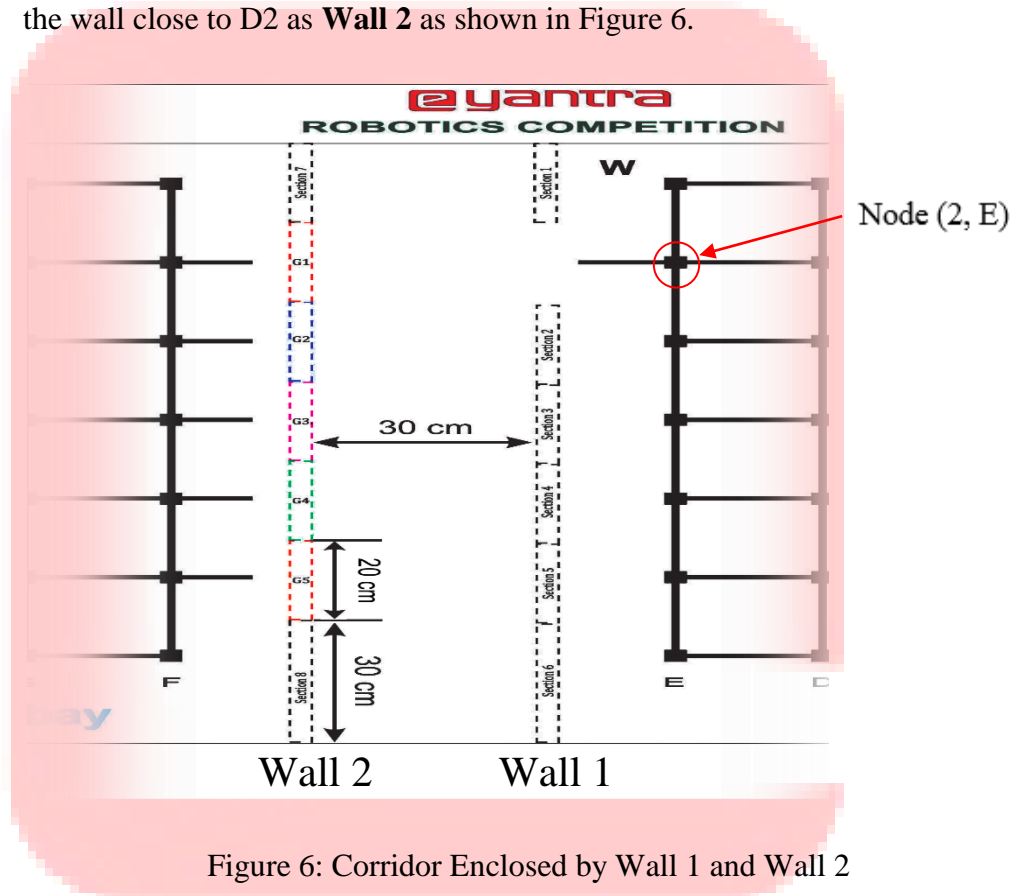

Figure 6: Corridor Enclosed by Wall 1 and Wall 2
- Wall sections need to be placed on the dotted lines marked on the arena. In the rest of this document, we will refer to the wall close to D1 as **Wall 1** and to the wall close to D2 as **Wall 2** as shown in Figure 6.